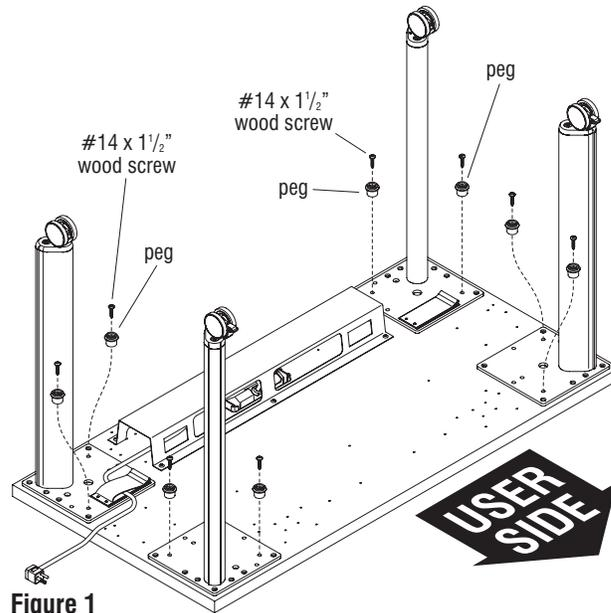

Figure 1
1. Locate the four pre-drilled peg mounting locations on each leg mounting plate, at each corner of each tabletop. Install a peg to each location using a #14 x 1 1/2" wood screw at each peg mounting location (Figure 1 & Details A & B).